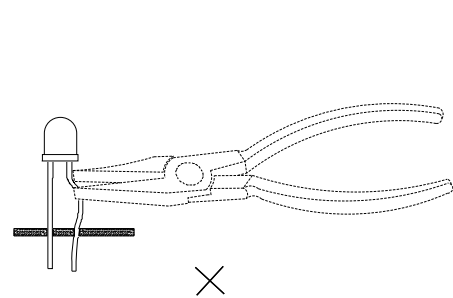

Fig. 7
- 4. During lead forming, use tools or jigs to hold the leads securely so that the bending force will not be transmitted to the LED lens and its internal structures. Do not perform lead forming once the component has been mounted onto the PCB. (Fig. 7)